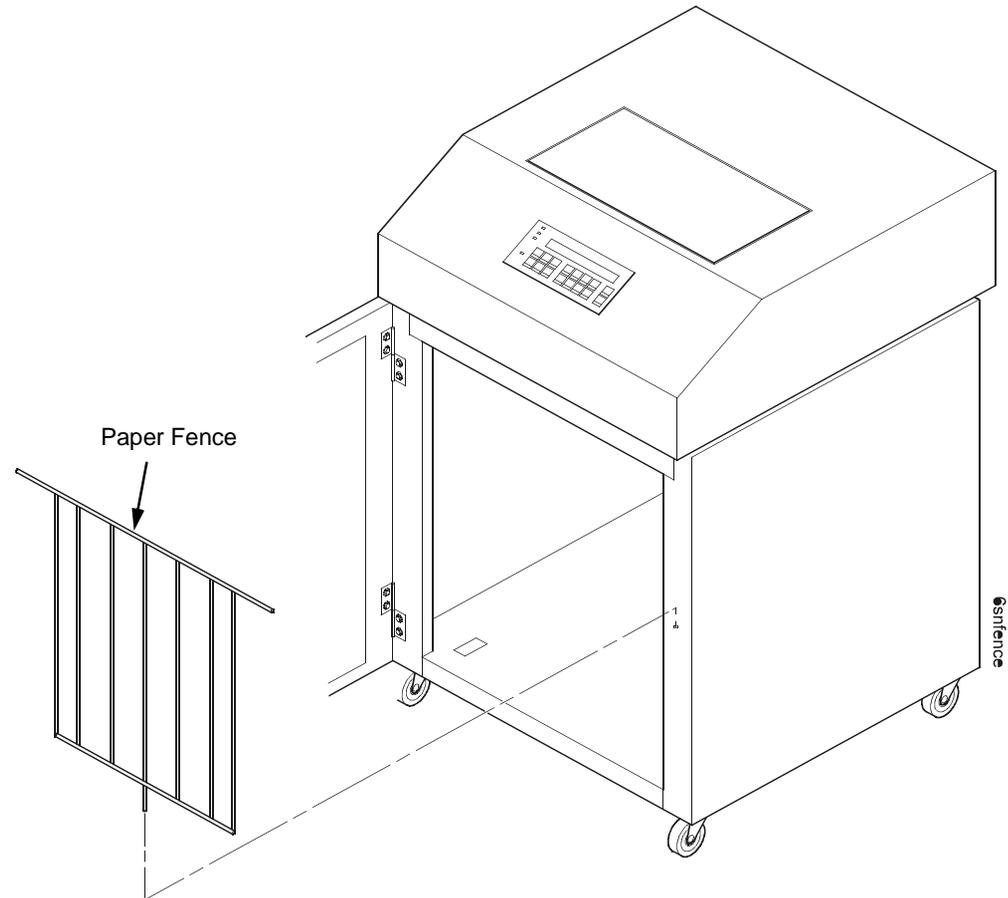

Figure 78. Removing the Paper Fence
5. Cut the tie wrap (if present) and remove the paper fence. (Figure 78.)